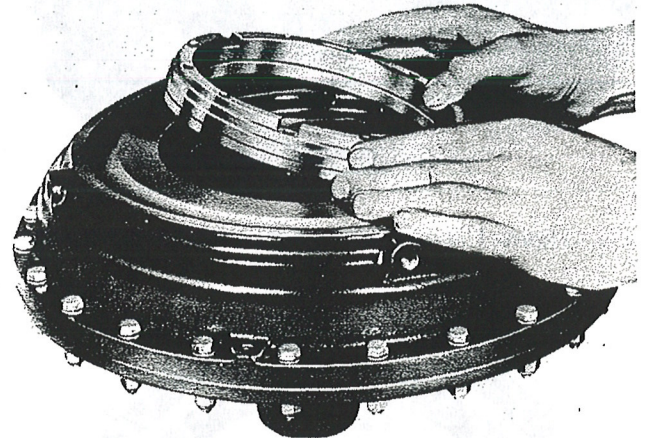

Figure 152—Installing Adapter Ring
(16) Install the adapter ring assembly over the adapter gasket. (See figure 152.)
(17) Install the control screws as follows: